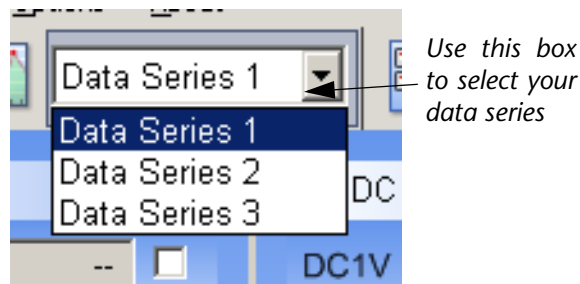

Figure 37 Use the Data Series Box to select your Data Table
1. Use the drop down box to select the Data Table (for example 'Data Series 1') that you need to produce the chart from (see Figure 37).